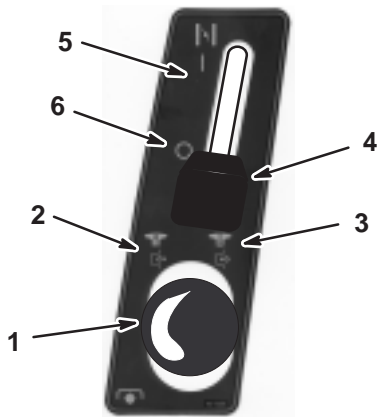
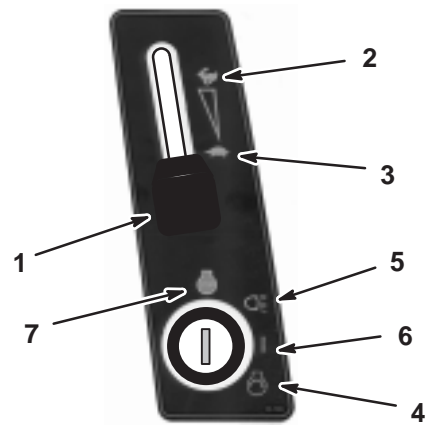

Figure 10
Figure 11
- Disengage the PTO (Fig. 10).
- When starting a cold engine, move the choke lever to the On position (Fig. 10).
- Move the throttle lever to the Slow position (Fig. 11).
- Turn the ignition key clockwise and hold it in the Start position (Fig. 11). When the engine starts, release the key.
- After the engine starts, slowly move the choke lever to Off (Fig. 10) and the throttle lever to Fast (Fig. 11).
- Move the throttle lever to Slow (Fig. 11).
- Turn the ignition key to Off (Fig. 11).